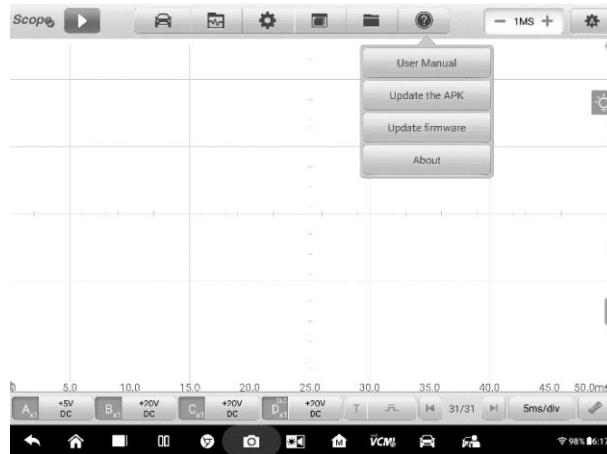

Figure 1-2 Sample Help Screen
1. Tap the **Help** button on the upper half of the screen. A dropdown menu displays. (*Figure 1-2*)